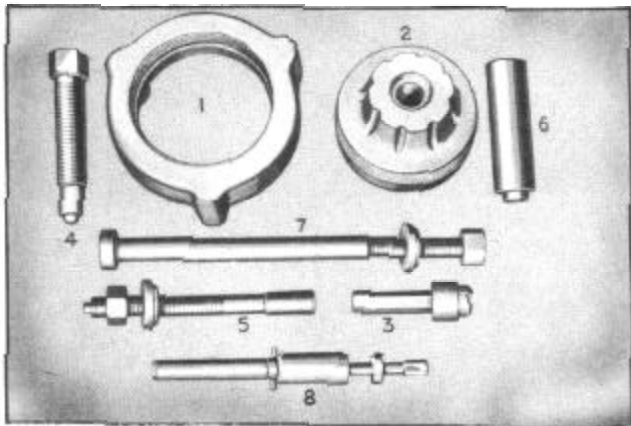

Figure 5--Tool Set
The water pump repair kit J 733 A, Figure 5, should be used in making all water pump repairs.
3. Assemble the body (No.1) of the water pump reconditioning set (J 733 A Figure 5) to the water pump with the three attaching studs.
The shaft clearance between it and the bushings is .0015" to .0025" and to obtain this clearance the bushing pilot (No.7) in the reconditioning set J 733 A (Figure 5) must be used.